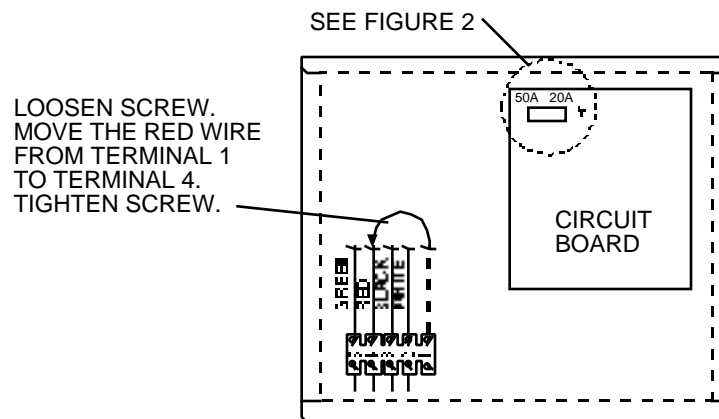

FIGURE 1
5. Install 230 VAC 4-wire power cord in accordance with local code requirements. Wiring must be of sufficient gauge to carry 50 AMPS. Insert the wires into the bottom side of the terminal block and tighten the screws. Refer to Figure 1.
6. Loosen the screws on the top side of the terminal block at positions 1 and 4. Move the red wire from position 1 to position 4. Tighten the screw at position 4. Refer to Figure 1.
7. Move the jumper at circuit board location J8 from 20A position to 50A position. Refer to Figures 1 and 2.